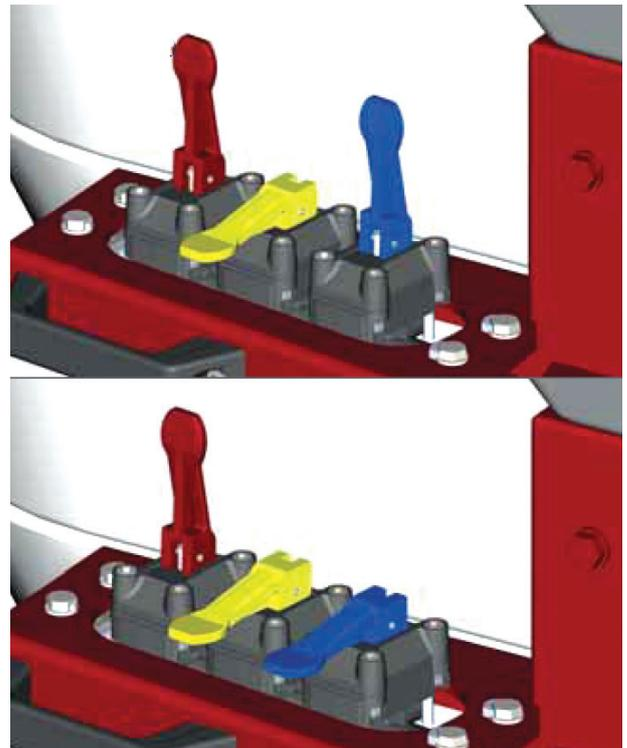

Figure 40
5. The filler blue valve and mixer valve (red valve) on the mixer are opened to get water into the mixer. When the water reaches a certain level, the blue filler valve is closed. **(Figure : 40)**